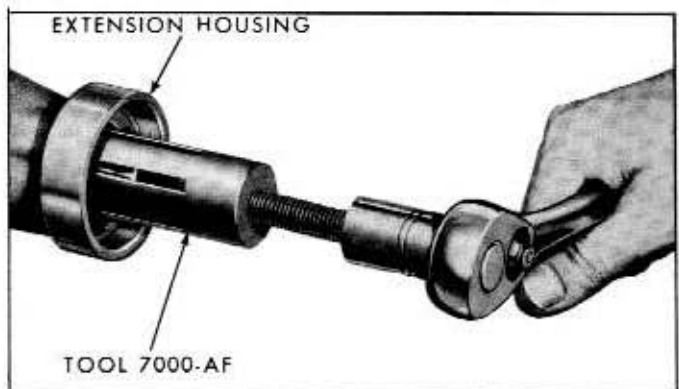

Fig. 7B-10—Removing Extension Housing Bushing—(60C-4413)
11. Remove the extension housing bushing as shown in figure 7B-10.